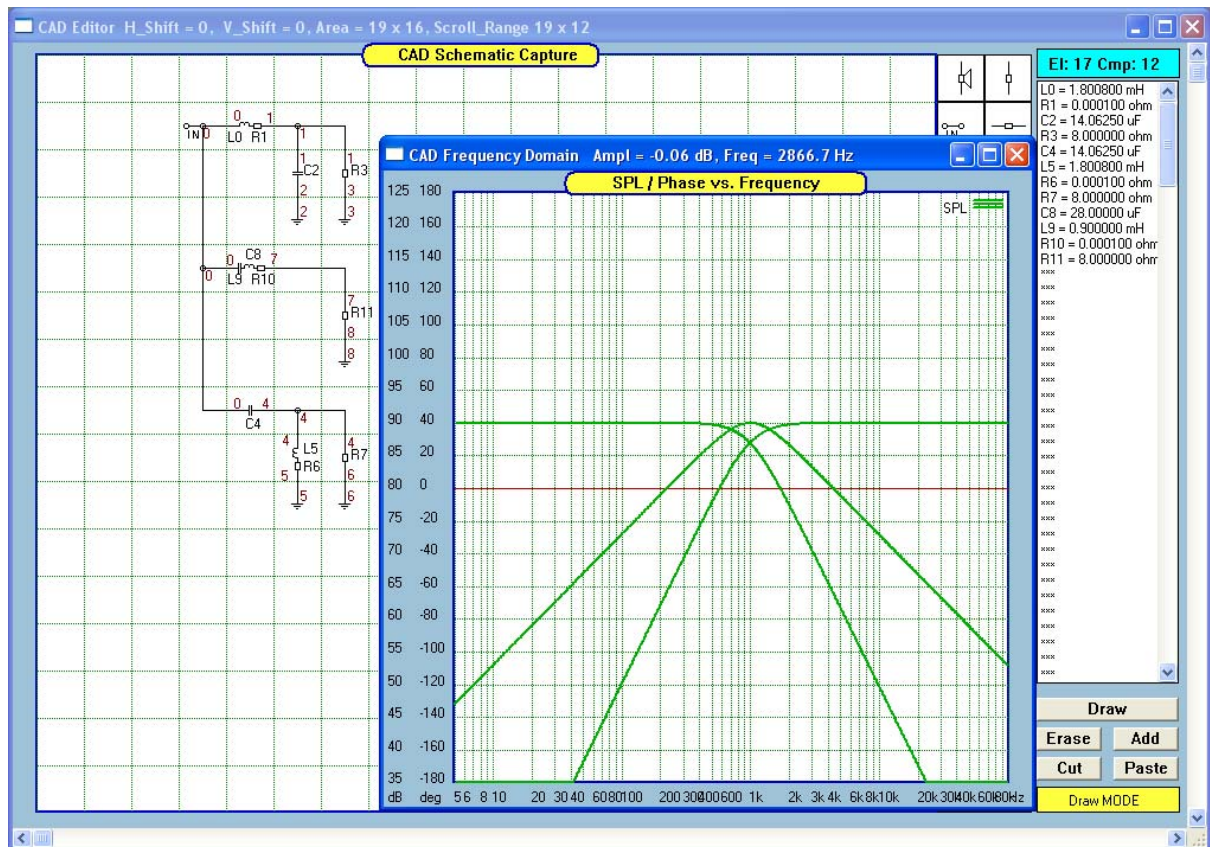

Fig 11.8 Three-way crossover with filler driver
One interesting case is depicted on Fig 11.8. The figure shows time responses of a first-order high-pass and low-pass crossovers and their summed response. It is observable, that this crossover is a constant voltage crossover and the resulting summed time response is a perfect square wave. The first order crossover is advocated by many designers as "the best there is" for this reason alone. However, loudspeaker drivers used with the 1-st order crossover must be of highest quality and reliability. They must have high power handling capabilities and be tolerant to out-of-band signals. A selection of drivers meeting these requirements is manufactured by Dynaudio. The "fill-in" driver concept revolves around inserting in an extra driver together with its crossover network - the filler driver. The new combined crossover becomes "constant voltage" crossover.
1. Fig 11.8